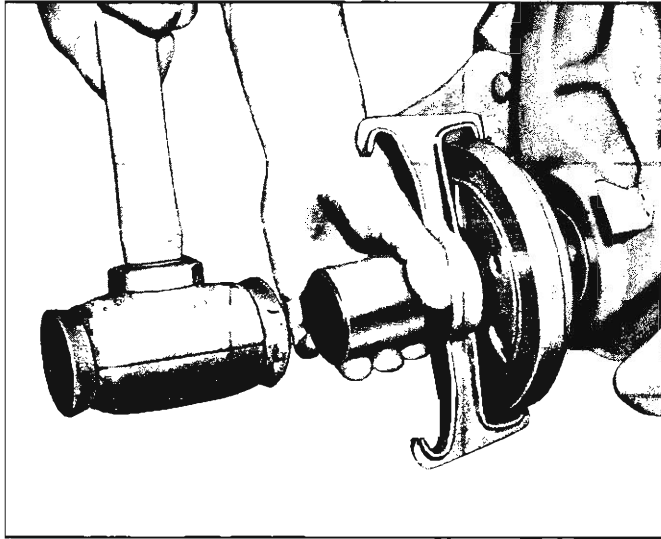

Fig. 9W—Installing Harmonic Balancer
4. Install tool over balancer with pilot adapter in the bore of hub. Tighten threaded driver only finger tight to keep from pulling balancer apart, then drive balancer onto crankshaft (fig. 9W) and remove tool.